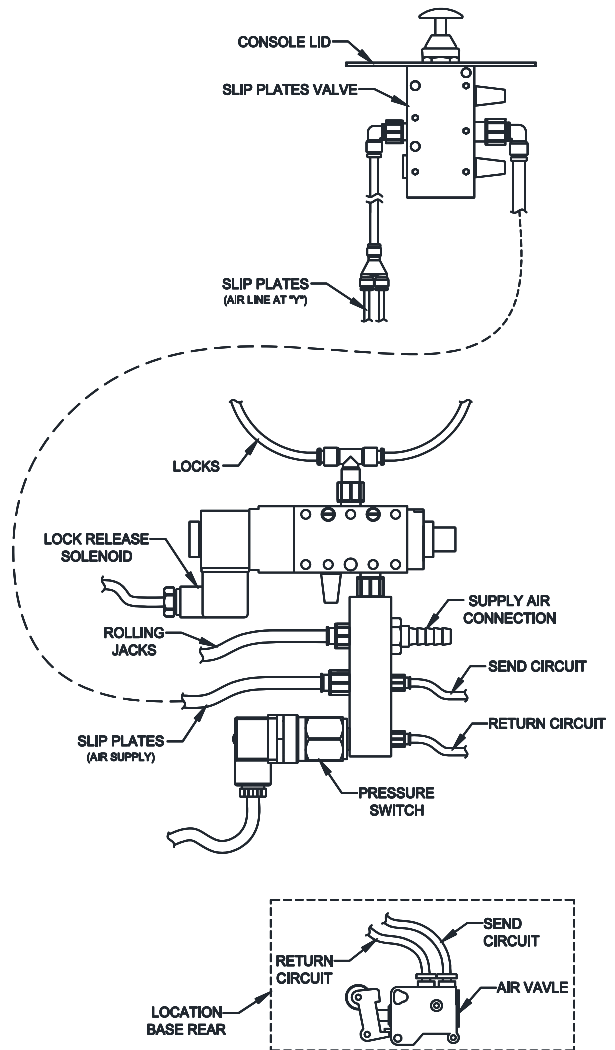

Fig. 7 – Pneumatic Connections
<p>LABEL 34</p>	<p style="text-align: center;">BLEEDING/SYNCHRONIZATION PROCEDURE</p> <p>1) After adding fluid to the reservoir, turn power on and ensure the disconnect switch is in the "ON" position and proceed with the following steps. IMPORTANT: DO NOT skip any step.</p> <ol style="list-style-type: none"> A. Ensure all 3 valves are closed, Fig 7. B. Press PHOTOCELL OVERRIDE & UP until both platforms stop moving. ¹ OPEN C. OPEN all 3 valves. D. Press PHOTOCELL OVERRIDE & UP until both platforms stop moving. E. Bleed air from each platform cylinder, Fig 8. F. If platforms lower into a lock position, press UP. G. Continue bleeding until oil begins to escape. H. Press UP until both platforms stop moving. I. CLOSE all 3 valves. J. Press PHOTOCELL OVERRIDE & DOWN. ² CLOSE K. Repeat entire procedure. ³ OPEN <p>Note 1: If platforms do not rise after pressing UP for 30 seconds, continue to step "C" of procedure.</p> <p>Note 2: If platforms stop moving while lowering, OPEN all 3 valves and continue lowering. Once both pads are completely lowered, CLOSE all 3 valves and repeat the entire bleeding procedure.</p> <p>Note 3: With platforms completely lowered, add oil to fill reservoir.</p> <p>Note 4: The bleeding procedure should be performed at least 3 times and repeated until both platforms are synchronized thru the complete raising and lowering of the platforms and no air comes out of either bleed screw.</p> <div style="display: flex; justify-content: space-around;"> <div data-bbox="836 1312 1063 1438">  <p>Open</p> </div> <div data-bbox="966 1312 1063 1438">  <p>Closed</p> </div> </div> <p style="text-align: center;">Fig. 7 – Valves (Hoses not shown)</p> <div style="text-align: right;">  <p>Fig. 8 – Bleed Screw</p> </div> <p style="text-align: right;">SX14-SYNC 2016-02-15</p>
- 19) The air lines from the lift can be identified using the following table. Connect each air line according to **Fig. 7**.